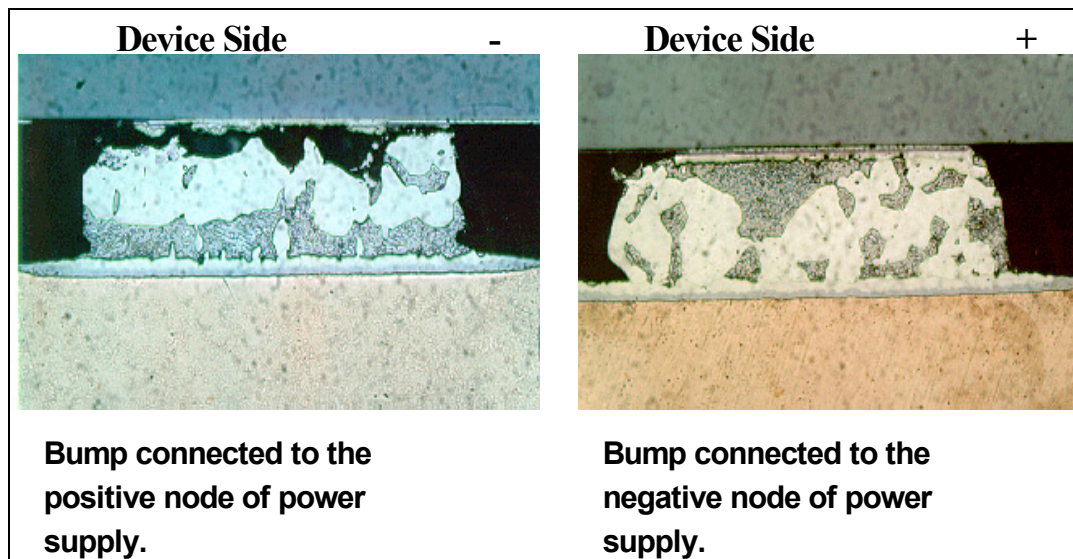

Figure 2. Electromigration Failure Cross Section
- 6.2 Electromigration** - The electromigration of the 63Sn/Pb solder in the flip chip bump is a function of the current density and the average bump temperature. Electromigration is the dominant failure mechanism at higher current densities for a given temperature. In the design rules provided, the solder electromigration projected first failure has been calculated based on the calculated Weibull life and slope of 4 and a calculated first failure at 0.9%. This value has been multiplied by 0.8 as an additional safety factor. Figure 2 shows an example of solder migration in the direction of electron flow. Note that the actual solder separation is often not very discernible. The large gap shown in Figure 2(a) actually occurred during cross sectioning and SEM analysis when some of the solder fell away along the solder migration line. When observing SEM cross sections of bumps that fail because of electromigration, a segregation of the Sn (dark) and Pb (light) start to form. In Figure 2, you can observe the segregation of the eutectic into distinct areas within the bump.